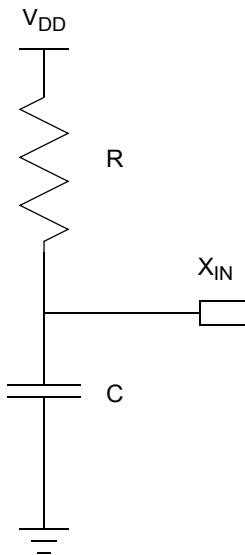

Figure 41. Connecting the On-Chip Oscillator to an External RC Network
The External RC oscillator mode is applicable to timing insensitive applications. Figure 41 displays a recommended configuration for connection with an external resistor-capacitor (RC) network.